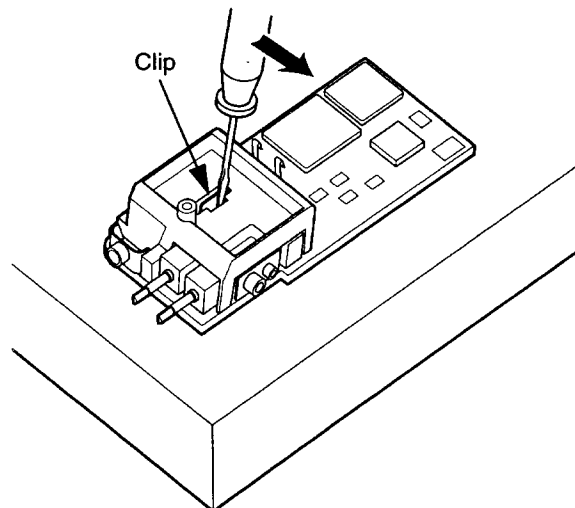

Figure 1-8. Remove Heat Sink
1. Push clip over tab on heatsink with screw driver or needle nose pliers to release locking clip (Figure 1-8).